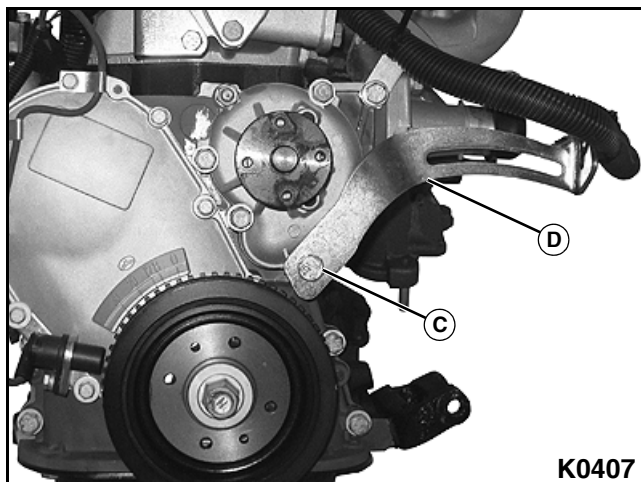

Figure 3-2
5. Remove upper alternator mounting bracket bolt (C) and remove upper alternator mounting bracket (D) from water pump. See Figure 3-2.